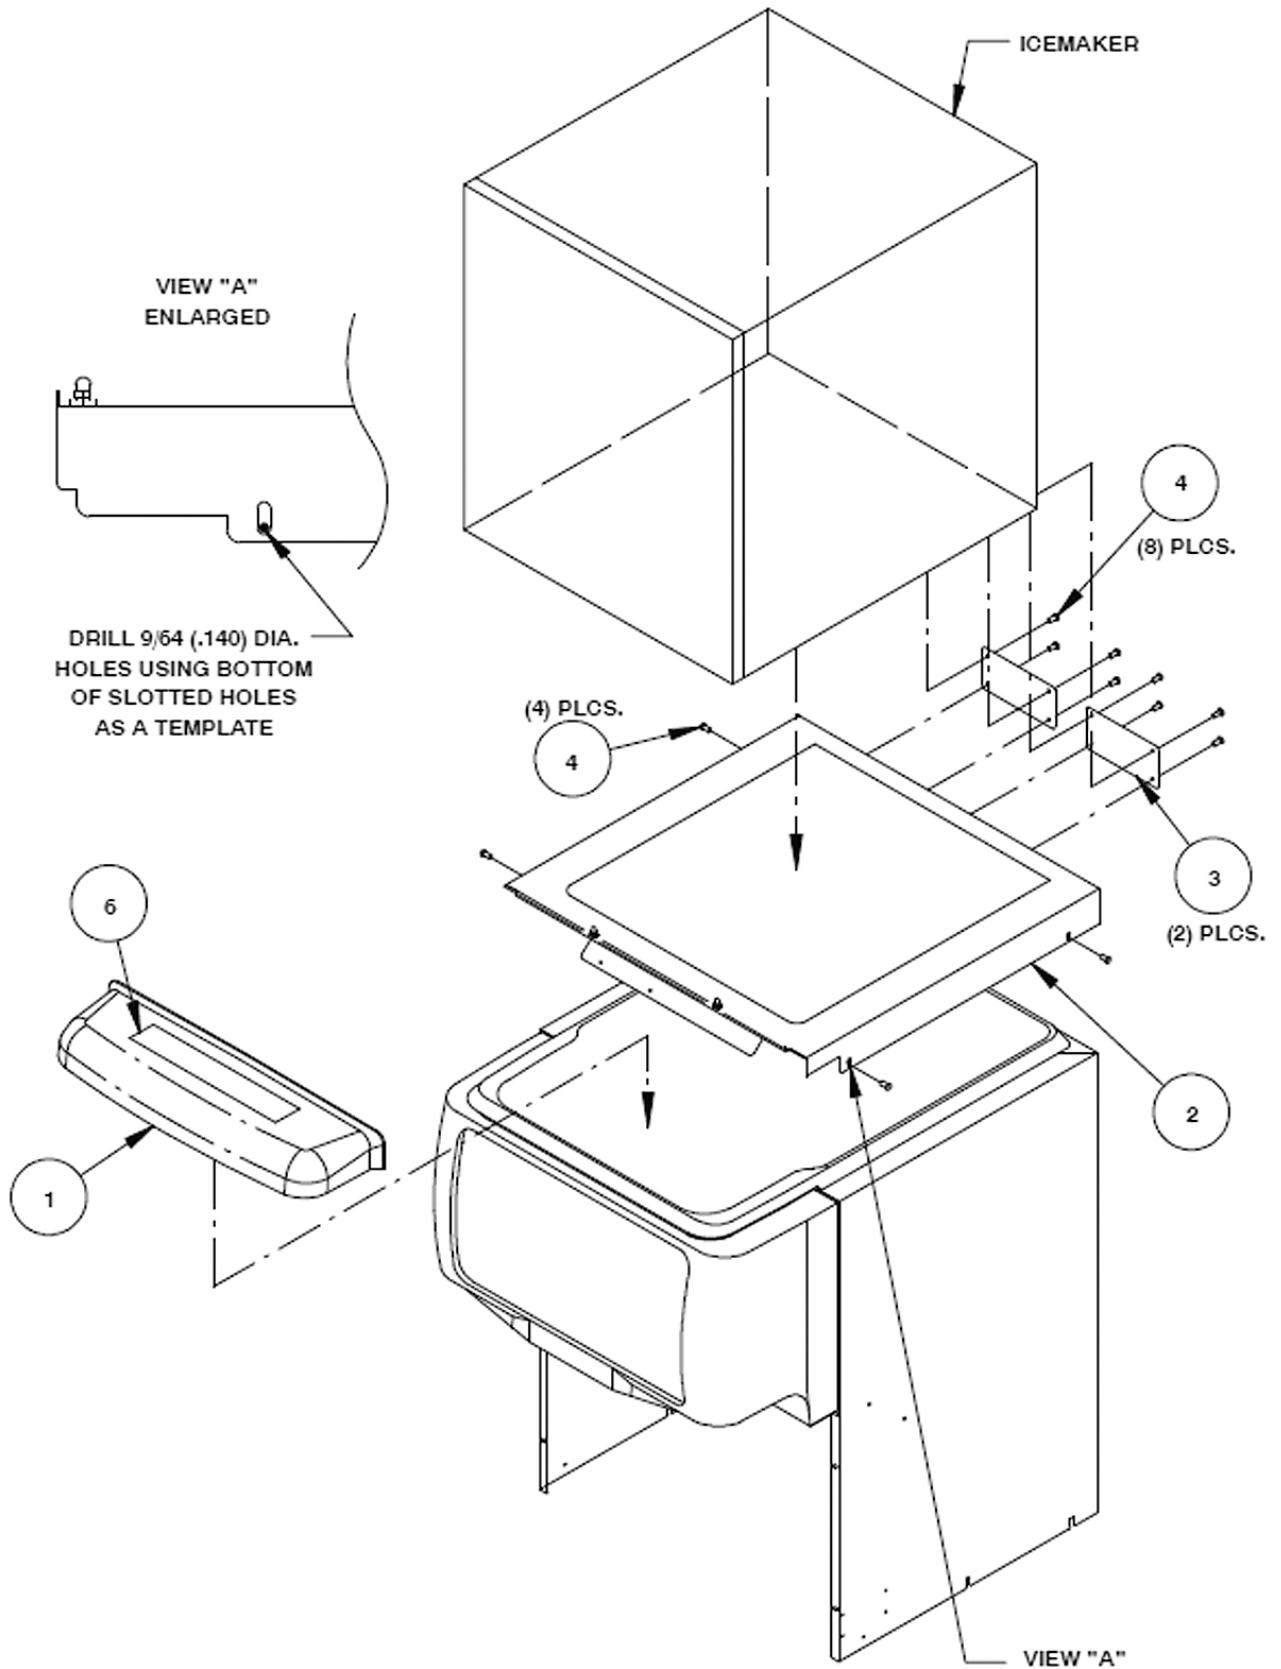
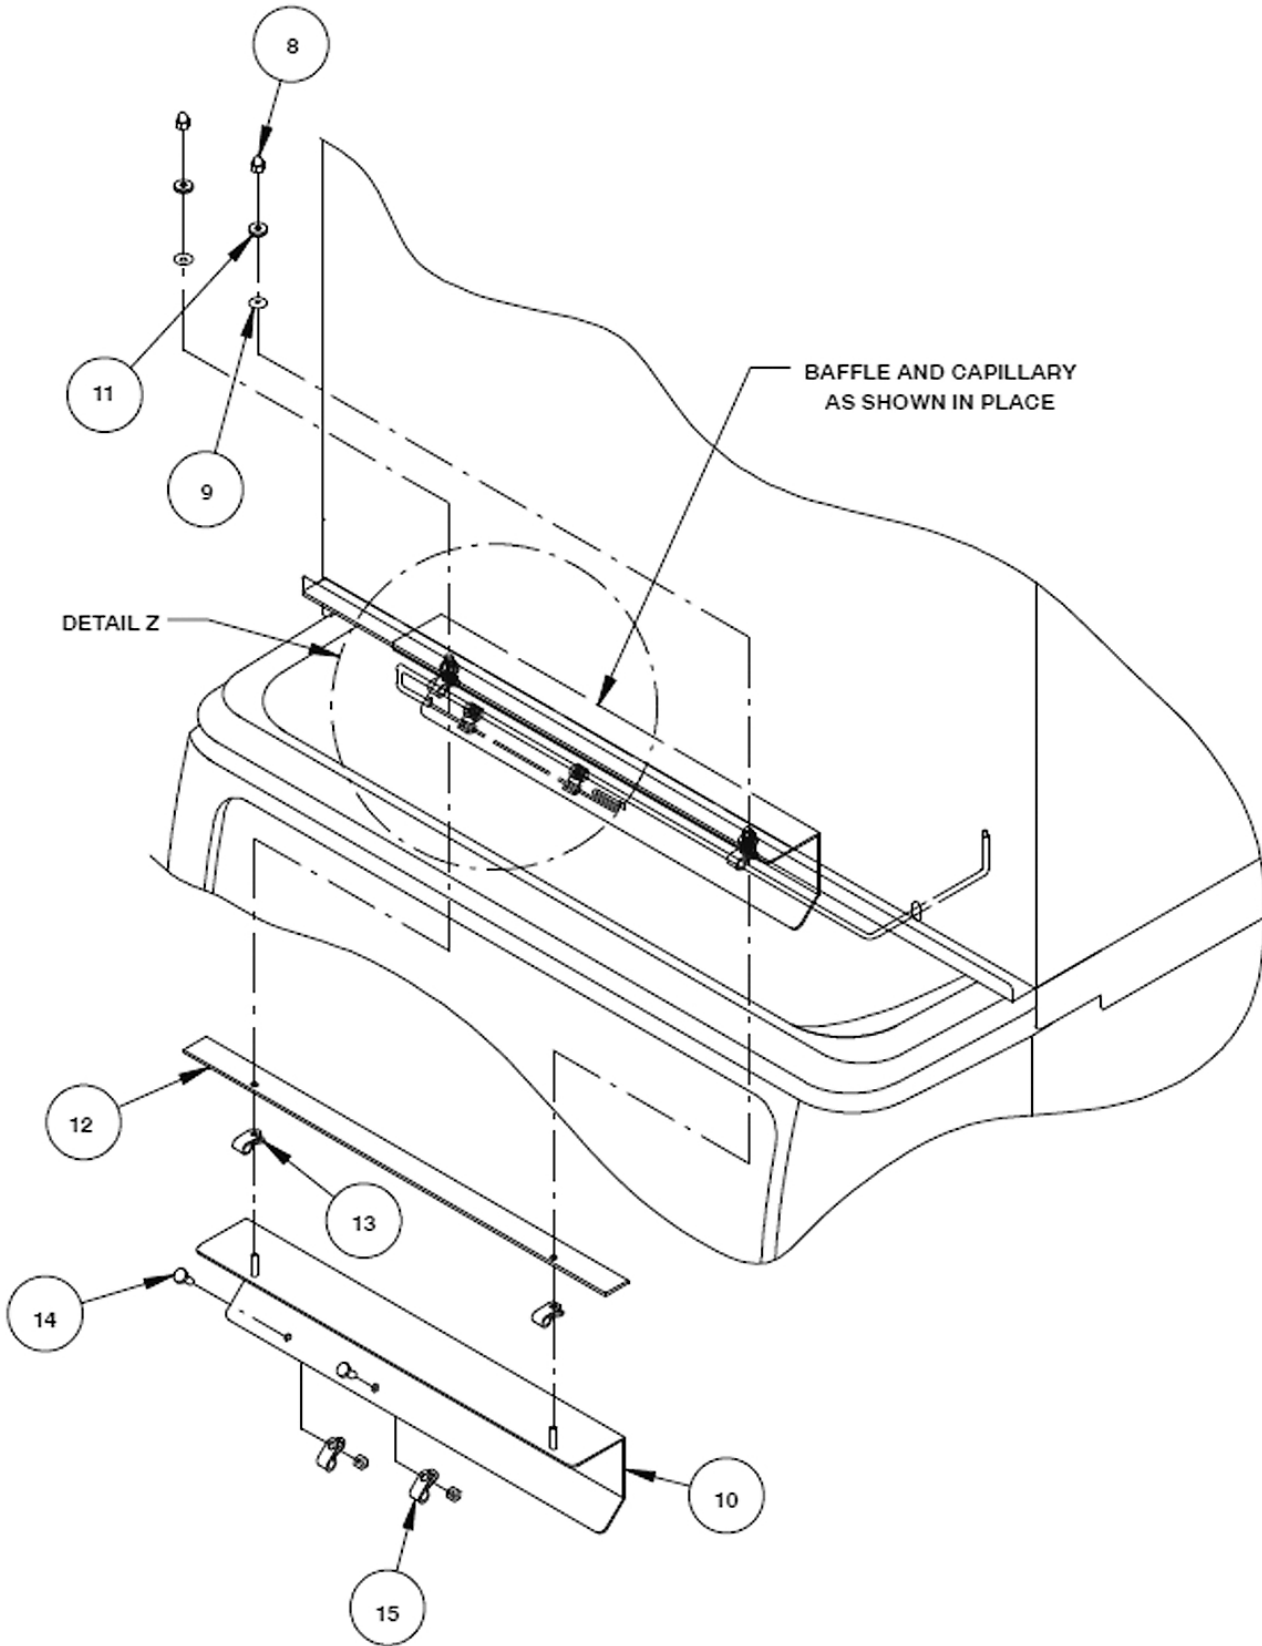
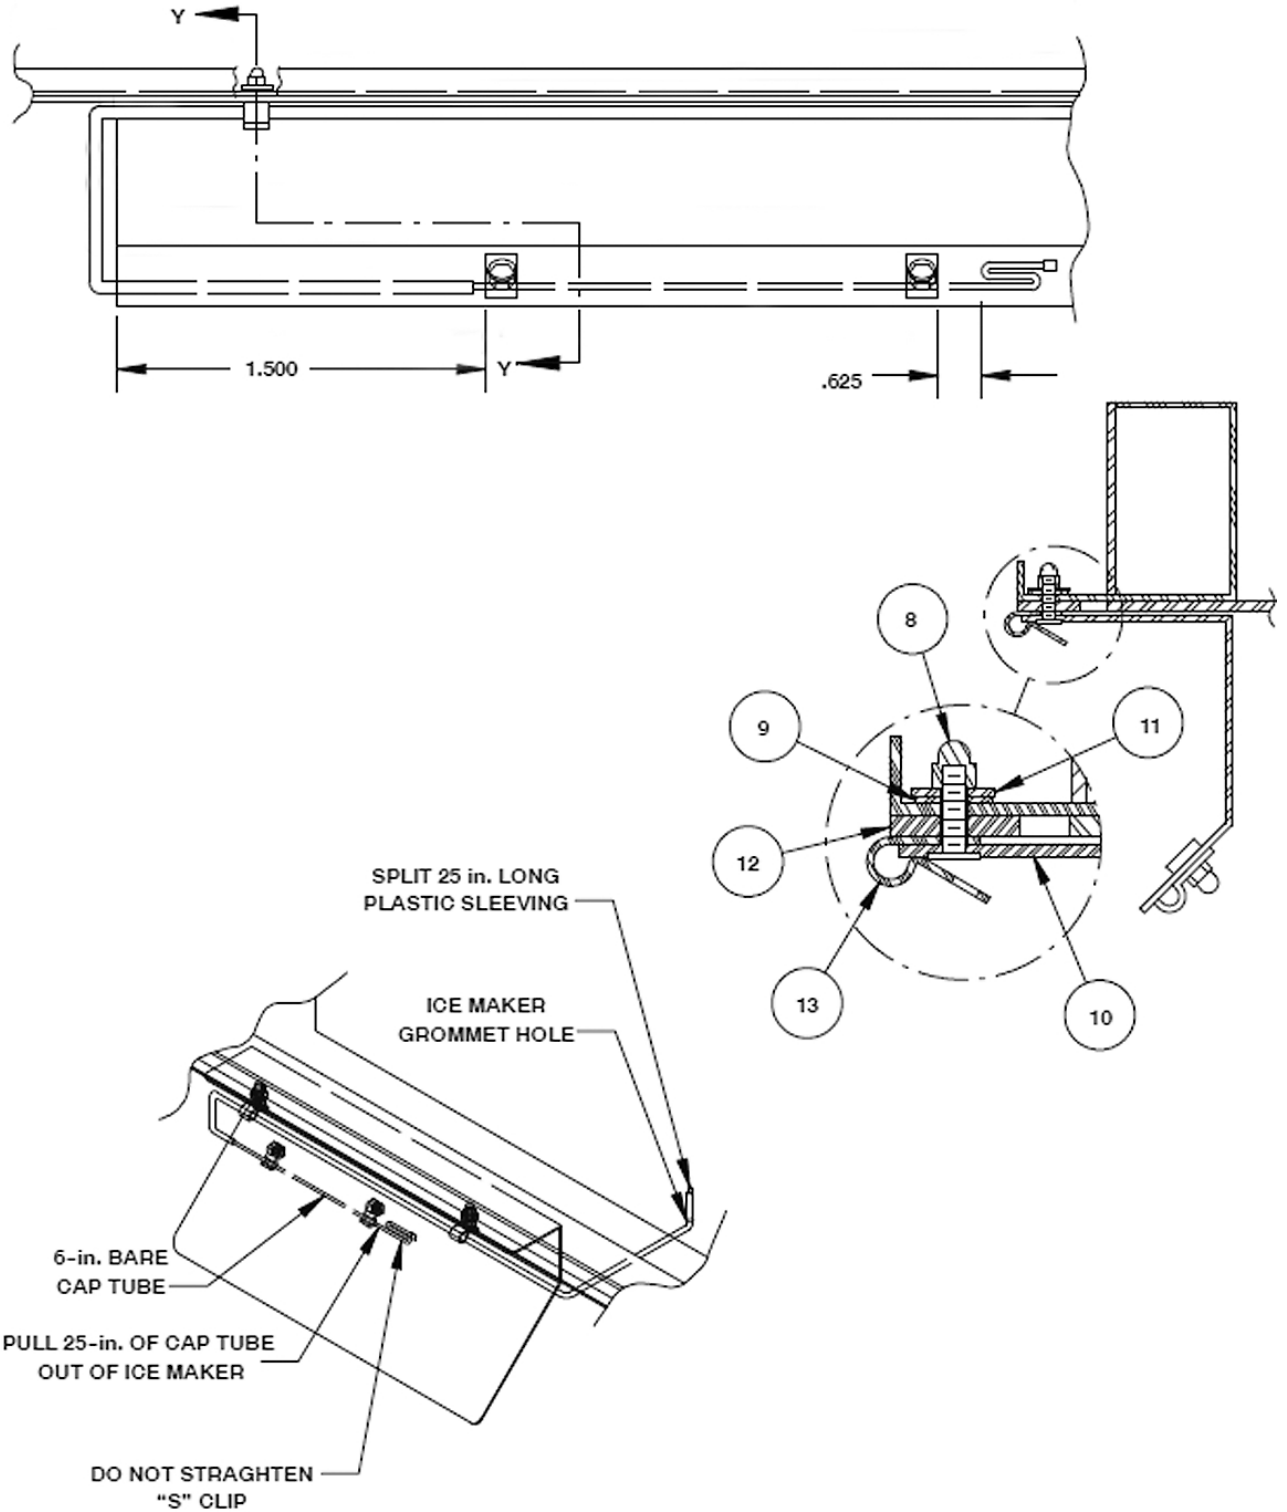

Figure 1. Dispenser Assembly
Figure 2. Baffle
Figure 3. Capillary Tube Location
3. Place two (2) sealing cap washers (item 9) over studs and two (2) nylon washers (item 11), then fasten in place with two (2) acorn nuts (item 8).
5. Using the slotted holes in the lid as a template, drill four (4) 0.140" diameter (9/64") holes at the bottom of the slots (see Detail A of Figure 1). **Use extreme care not to drill into the hopper.** Fasten the lid to the dispenser with four (4) #8 sheet metal screws, two on each side.
8. Mount bin stat kit (item 17) as instructed except for the bin stat capillary tube mounting.
9. Pull 32" of capillary tube out of bottom of the ice maker. Slit and place vinyl tubing (item 16) over the capillary tube leaving 6" of bare capillary tube exposed between capillary "S" bend and vinyl tubing.
10. Assemble two (2) nylon clamps (item 15) to the back side of the ice baffle (item 10) with two (2) screws (item 14) and acorn nuts (item 8). *Do not overtighten.*
11. Route capillary tube around baffle as shown in Figure 2 and Figure 3.
12. Position two (2) nylon clamps (item 15) on studs of ice baffle (item 10) and two (2) nylon washers (item 11) on studs as shown.
14. Place two (2) sealing washers (item 9) over studs and fasten in place with four (2) acorn nuts (item 8).
15. Route and form capillary as shown in Figure 2 and Figure 3. Tighten two (2) plastic clamps (8-32 X 3/8" screws) to hold capillary tube in place.